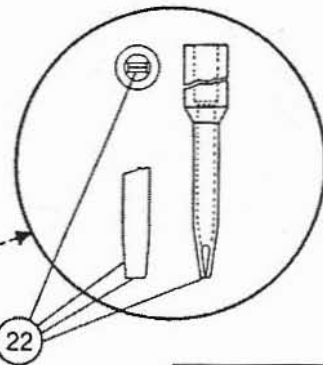

Fig. 8
- c) That the regulating clamp No. 3510 grips sufficiently to support a load of about 30 grammes without slipping. The two jaws of the clamp should be truly parallel, and grip the wire by their extremities (See fig. 8).
36. Rotate the two flat surfaces of the regulating clamp to bring them parallel with the plate, so that the wire is not twisted between the clamp and its upper fixing point. The regulating clamp enters the regulating spring No. 3512 to half the depth of the cone (fig. 8).